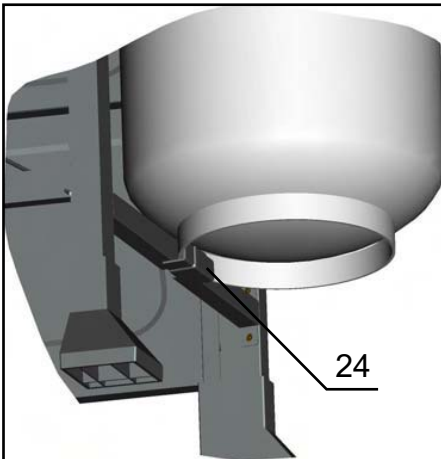

Fig.1
1. Place gas cylinder (not included) into the slot of cart left support bar-lower (24) as illustrated. Fig.1